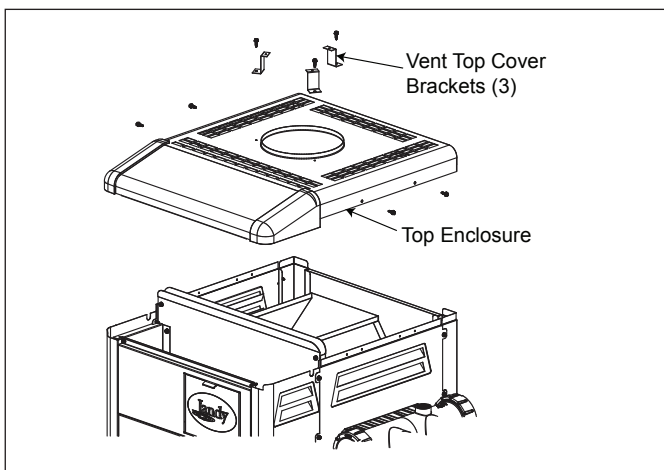

Figure 2. Remove the Top Enclosure
3. Remove the three (3) vent top cover brackets by removing three (3) screws holding brackets in place to the top enclosure. See Figure 2.
4. Remove the top enclosure by removing four (4) screws, two (2) on each side of heater, holding top enclosure in place to heater. See Figure 2.